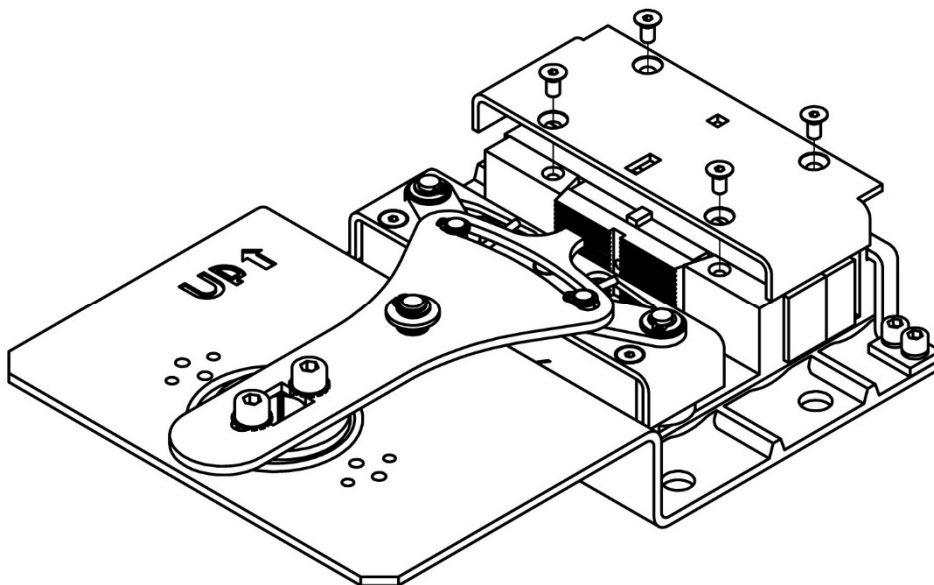

Figure2 Unscrewing the screws from the protective cover
3. Unscrewing the DIN 7991 M5 screws from the protective cover, according to Figure2